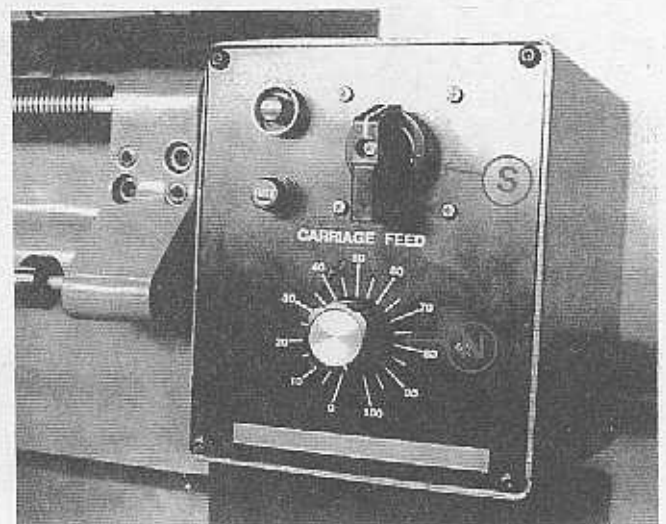

Figure 23 - Power Feed Unit
Start the power feed by turning Cam Switch "S" (figure 23).
2. The Cam Switch "S" (figure 23) controls the direction of the power feed.
3. The carriage Feed Control "N" (figure 23) controls the rate of feed. When Cam Switch "S" is placed in "RIGHT" position, the carriage will feed toward the right, the cross slide will feed away from the operator.